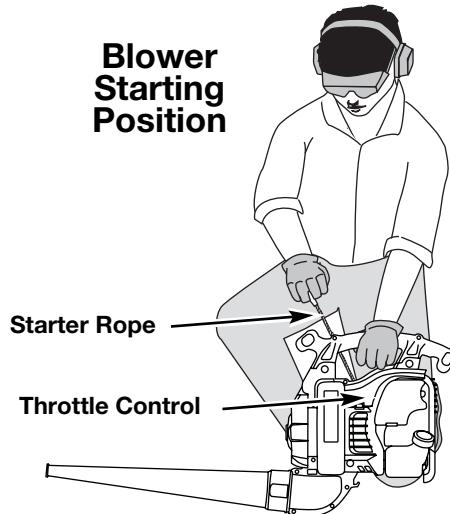
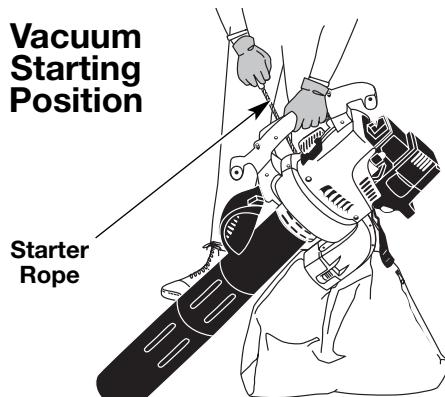

Fig. 14
Fig. 15
WARNING: Avoid accidental starting. Make sure you are in the starting position when pulling the starter rope (Fig. 14 or 15). To avoid serious injury, the operator and unit must be in a stable position while starting.
- 5. Crouch in the blower starting position (Fig. 14) or stand in the vacuum starting position (Fig. 15). Move the throttle control to the idle position (Idle) (Fig. 16). Pull the starter rope out with a slow and steady motion 5 times.